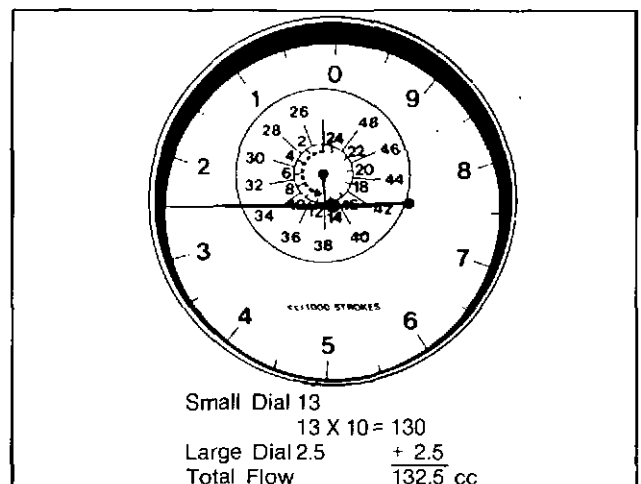

Fig. 2-55. Reading 132.5 cc injector flow
- a. If the small hand has made less than one revolution, use the inner ring figures (2 to 24) and multiply by 10. Add the reading of the large hand. Figs. 2-55 and 2-56.